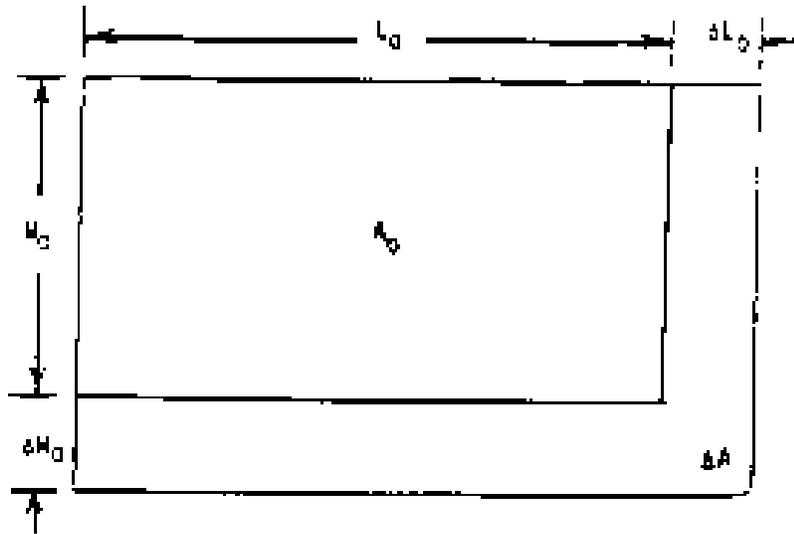

Figure 1. A two-dimensional object whose area has changed by  $\Delta A$  as a result of a temperature change  $\Delta T$ .
This analysis can be extended to a two-dimensional object. Figure 1 shows a rectangular plate of length  $L_0$  and width  $W_0$ , at temperature  $T_0$ . The plate can be considered to be made up of thin horizontal rods of length  $L_0$  and of thin vertical rods of length  $W_0$ . When the temperature of the plate changes by  $\Delta T (= T - T_0)$ , the length of the horizontal rods changes by  $\Delta L$ , and the vertical rods change by  $\Delta W$ . Thus the change in the area of the plate,  $\Delta A$ , is found by subtracting the area at temperature  $T_0$  from the area at temperature  $T$ .
1. Derive (4) from (3), and explain why a certain term was neglected. Explain the validity in neglecting that term.
2. Suppose that the two-dimensional object in Figure 1 is anisotropic with coefficients of linear expansion  $a_x$  in the horizontal direction and  $a_y$  in the vertical direction. Derive an expression for the increase in area that occurs when the object is heated through a temperature difference  $\Delta T$ .
6. Start with (8) and derive (9).